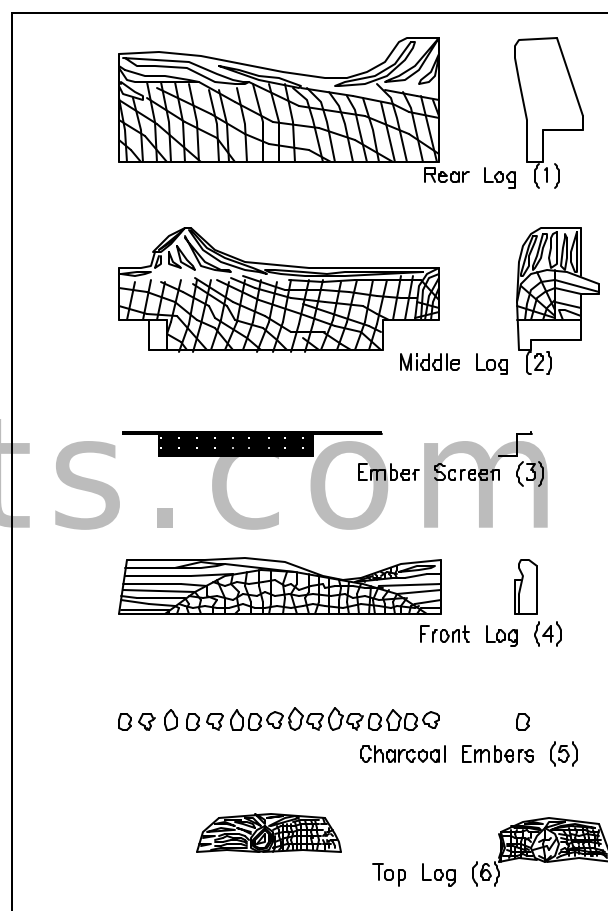

Figure 14
INSTALLATION OF THE LOG SET*(Refer to figures 14 & 15)*
The log set is four pieces along with the charcoal embers as shown in *Figures 14 & 15*. First, remove the Top Log (6) by pulling it up off the Middle Log (2) and out of the firebox. Next remove the charcoal embers. Then lift upwards and pull the Front Log (4) out of the Firebox. Next remove the Embers Screen (3) from the burner tube. Grip the Middle Log (2) and lift upward, off the burner tube holder, and out of the firebox. The Rear Log (1) can then be removed from the firebox. Place the logs and charcoal embers in a safe area where they will not be damaged.